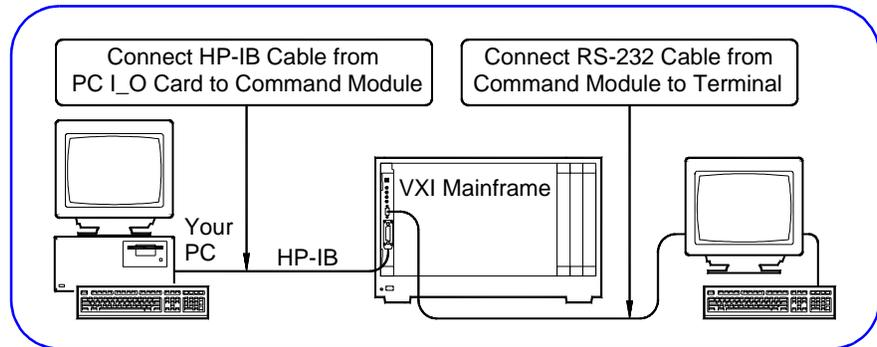

Figure 20. Connecting the Interface Cable
- 2 (OPTIONAL - HP-IB ONLY) If you have HP-IB Rack & Stack equipment in your system, you can also connect the HP-IB cable to the Rack & Stack instruments (see Figure 20).
- 3 (OPTIONAL - HP-IB ONLY) For a system with an HP E1406 or HP E1306, you can also connect a terminal to the RS-232 port (see Figure 20). See the *HP E1406A User's Guide* or the *HP E1306A User's Guide* for details.